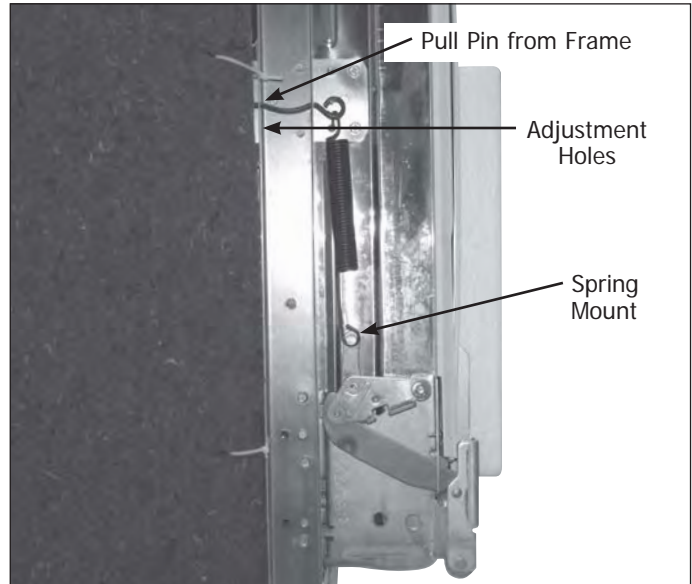

Figure 4-8.
2. Pull pin out of side frame to release top of spring. (See Figure 4-8)
6. Pull pin out of side frame to release top of spring. (See Figure 4-8)